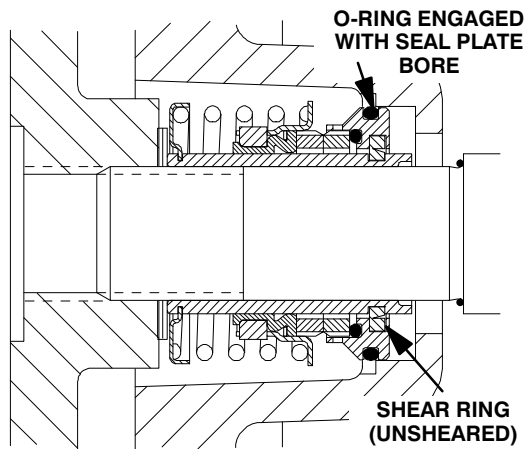

Figure 6. Seal Partially Installed
Clean and inspect the impeller as described in **Impeller Installation and Adjustment**. Install the full set of impeller shims (28) provided with the seal, and screw the impeller onto the shaft until it is seated against the seal (see Figure 6).